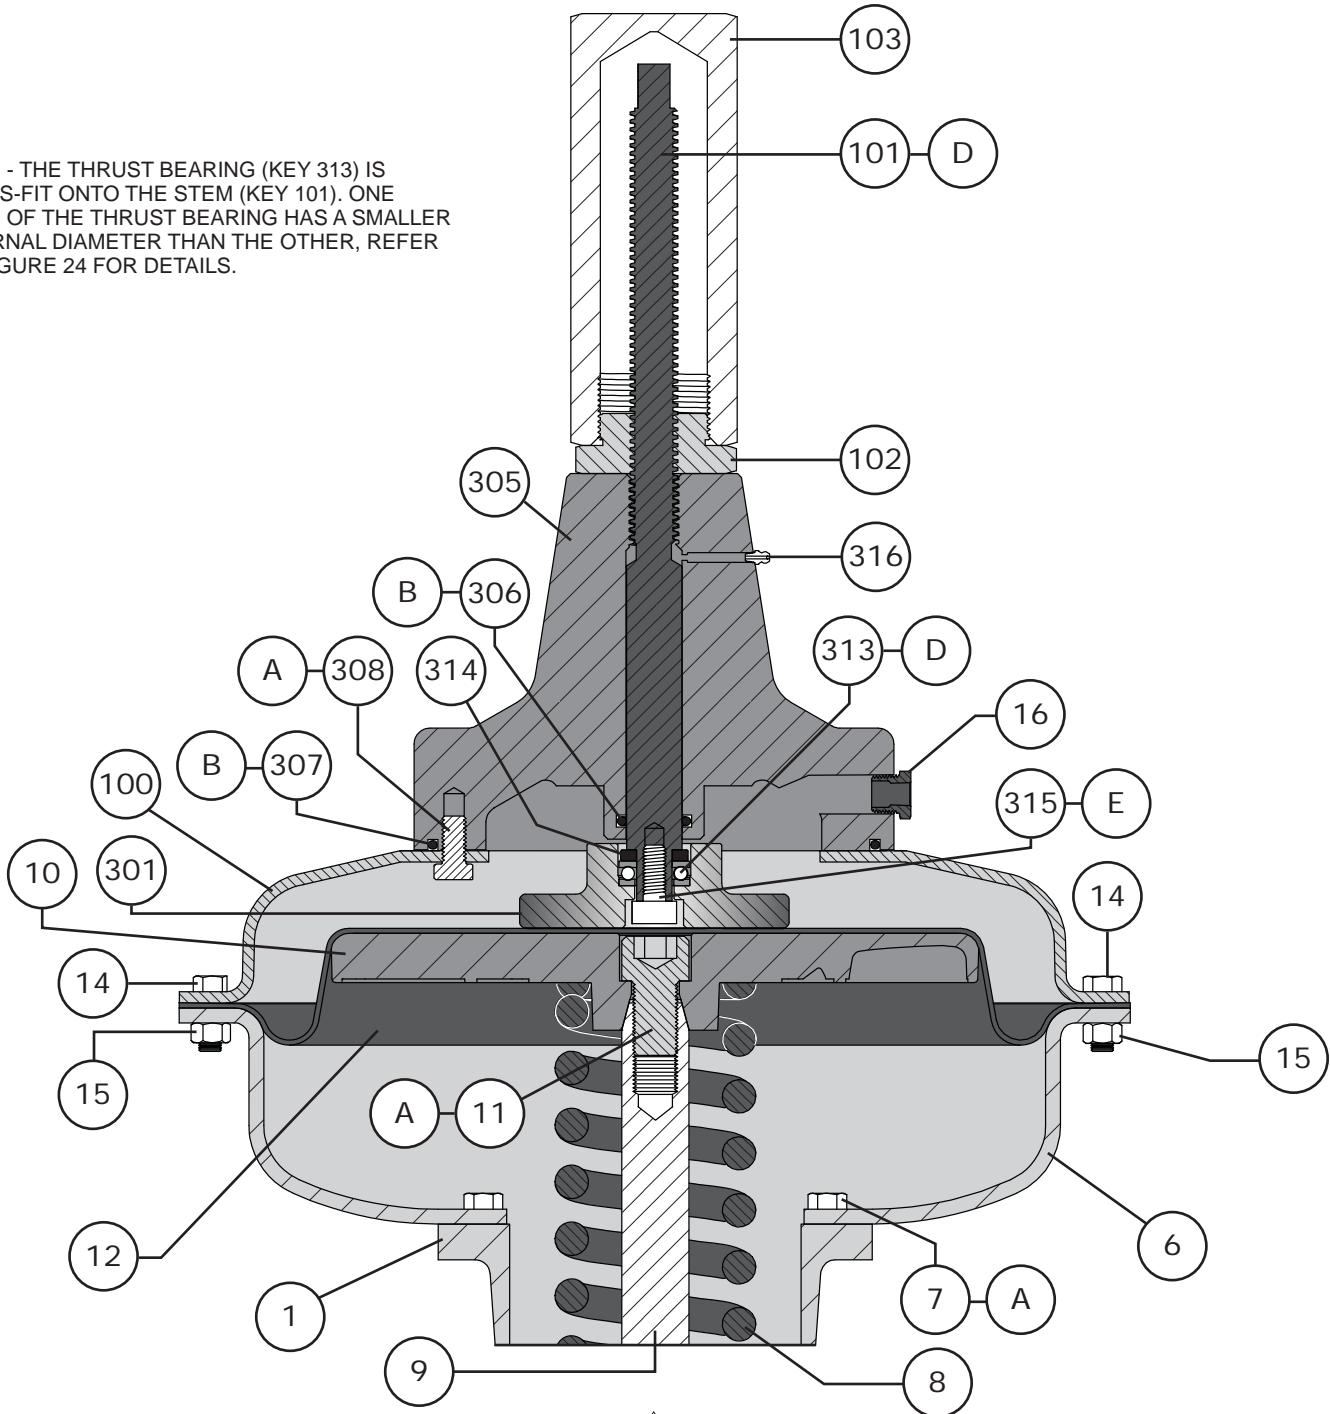

Figure 26 Type 1 Up Travel Stop Cross Section (Size 220 Actuators)
- 6 Separate the travel stop assembly from the upper diaphragm casing (Key 100) by remove the cap screws (Key 308). Refer to Figure 26 and 24.